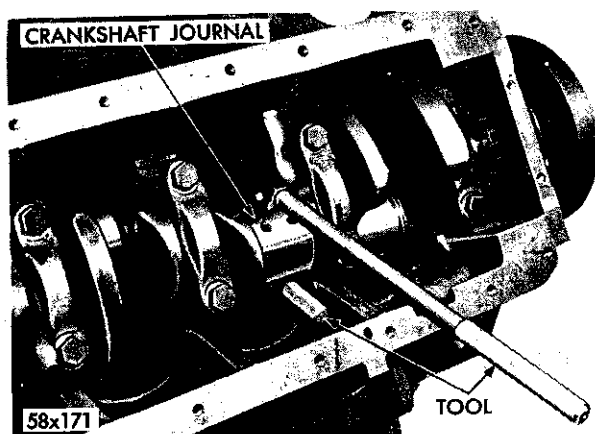

Fig. 45—Installing Connecting Rod Using Tool C-3221
(1) Before installing the pistons, rods, and rod assemblies in the bore, be sure that the compression ring gaps are staggered so that neither are in line with the oil ring rail gaps.
(2) The oil ring expander ends should be positioned toward the outside of the "V" of the engine. The oil ring rail gaps should be positioned opposite each other and above the piston pin holes.
(3) Immerse the piston head and rings in clean engine oil, slide the ring compressor, Tool C-385, over the piston and tighten with the special wrench (part of Tool C-385).
(4) Be sure the position of rings does not change during this operation. Screw the connecting rod bolt protector (part of Tool C-3221) on one rod bolt, and insert the rod and piston into cylinder bore.
(5) Attach the puller part of Tool C-3221 on the other bolt, and guide the rod over the crankshaft journal, as shown in Figure 45.
(6) Tap the piston down in the cylinder bore, using the handle of a hammer. At the same time,